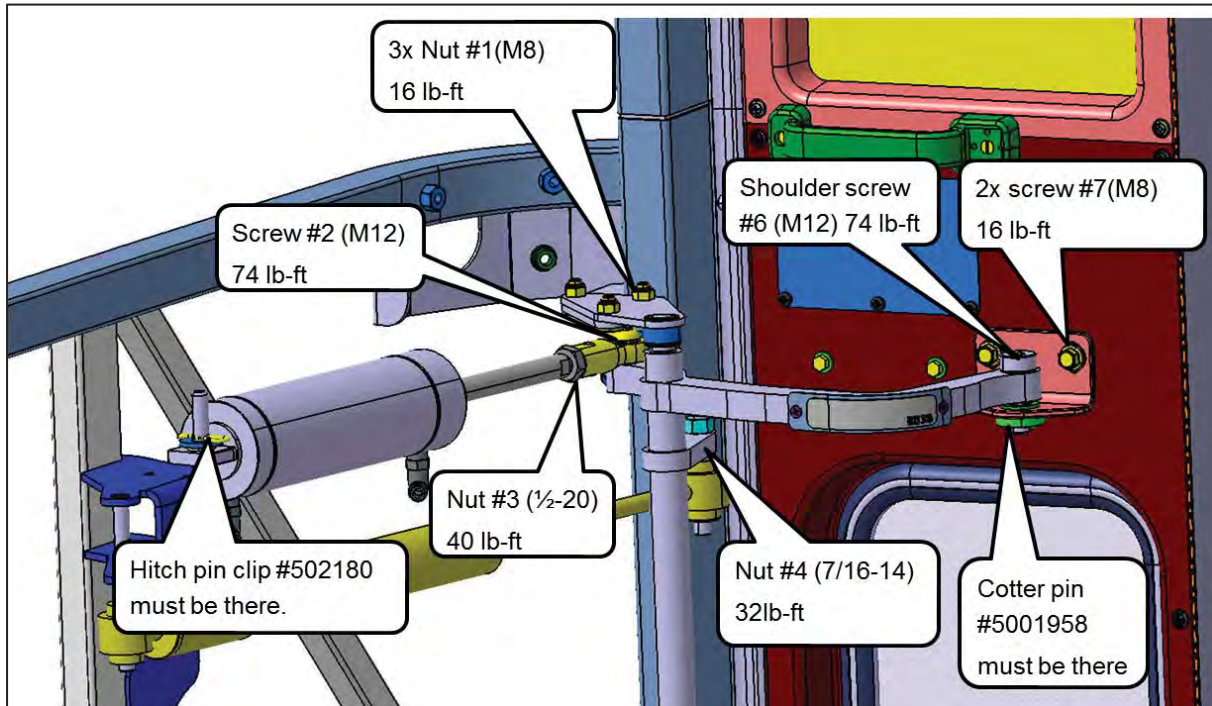
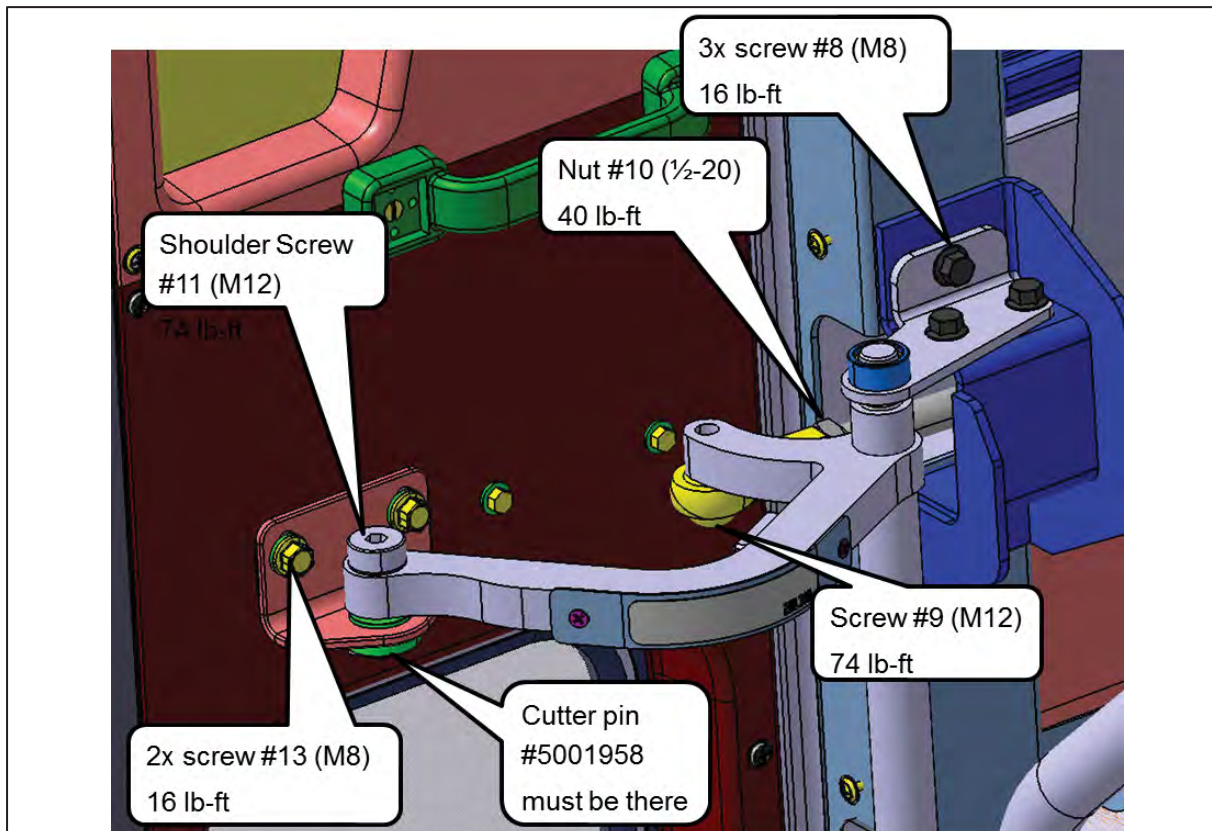

Figure 2 Torque reference, fore door links
Figure 3 Torque reference, aft door links
(#3,fig. 2) ; (#10 fig. 3)
- 6) Tighten shoulder screw on door side to **74 lbf-ft.** (fig. 8 & #2, fig. 2).
Tighten both items to **32 lbf-ft.** (#4, fig. 2)
Items # 6, fig. 2 and #11, fig. 3:
10) Finally, tighten each item shown in Torque Reference Figures 2, 3 and 4, with the exception of the items already tightened so far in the bulletin. Apply torque seal.